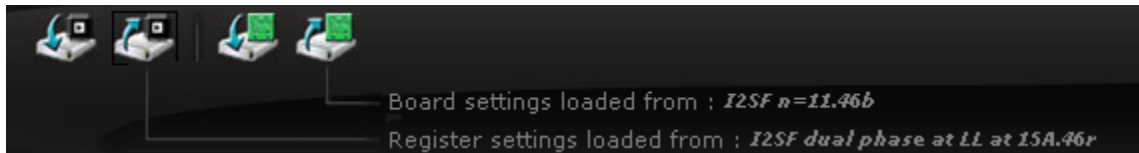

Figure 8 - Different icons on dashboard for loading and saving .46r and .46b files
6. The IC on the board comes preprogrammed and this step is optional. The original register configuration is stored in the ADP1046A\_FBPS\_600W\_XXXX.46r register file (Note: All register files have an extension of .46r). The file can be loaded using the second icon from the left in Figure 8.